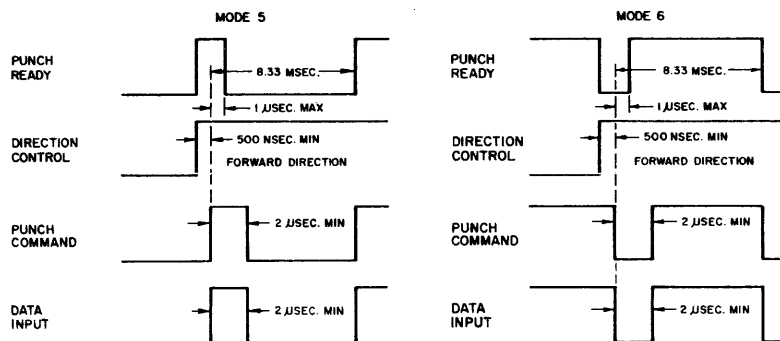

Figure 3-4. Timing Diagram, Perforator Section
Table 3-1 lists the input and output signals which are routed through J1 and J2. The definition and/or usage of these signals are also included in the table. Figure 3-4 shows the timing diagram for the perforator and Figure 3-5 shows the reader timing. Also see Note, Section 2.5.
In this mode of operation, the unit will punch feed holes and data holes at up to 120 cps in the forward direction under control of input signal lines. See Figure 3-4 for proper timing.
- g. Apply a forward signal $+2.4 < V < +5.0$ or open circuit to the Direction Input Line at J1, pin 10. Direction input must be stable for 500 nsec., min., before the punch command is given (step h). See Figure 3-4.
- h. Apply a true (hole) signal to each pin (J1, pin 1 through J1, pin 8) for the desired tracks to be punched depending upon the mode. See Table 3-1 and and Figure 3-4. Data commands must be present at the time a punch command is initiated (step i) and must remain on the line for 2 usec. (min.) after the punch command input reaches the true level.
- g. Apply a reverse signal between 0V and +0.4V to the Direction Input line at J1, pin 10. Direction input must be stable for 500 n sec., min., before the punch command is given (step h). See Figure 3-4.